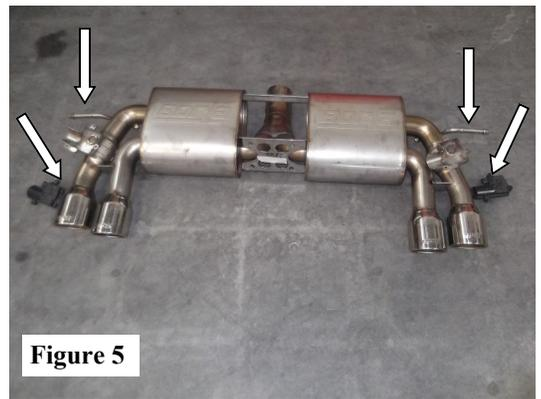

Figure 5
1. Confirm components transferred to rear muffler assembly and actuator bolts are tight. (See Fig. 5)